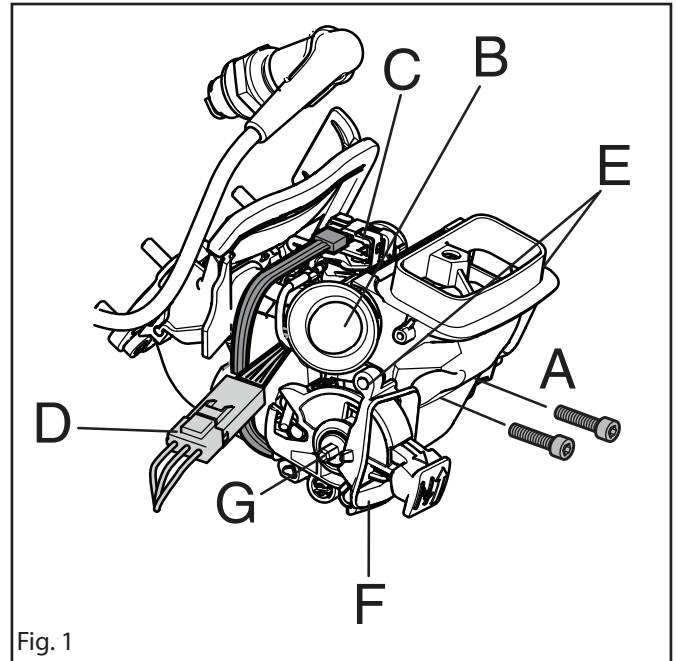

Fig. 1
2. Unscrew the two screws from the air filter holder (A). See figure 1.
3. Unhook the air purge from the air filter holder (B). See figure 1.
4. Dismantle the cables connected to the contact clamp (C).
5. Dismantle the cable connection on the Autotune unit and disconnect the cables connected to the ignition module (D). See figure 1.
6. Unhook the rubber collar around the guide plugs (E). See figure 1.
7. Lift out the air filter holder and start/stop switch from the chainsaw. Detach the rubber sleeve from the start/stop switch (F). See figure 1.
8. Loosen screw (G) and dismantle the start/stop switch if necessary. See figure 1.
2. Slide in the start/stop switch in the rubber sleeve (F) and attach it to the air filter holder. Hook the rubber collar around the guide plugs (E). See figure 1.
3. Place the air filter holder on the chainsaw and screw the two screws (A). See figure 1.
4. Attach the cables (C, D). See figure 1.